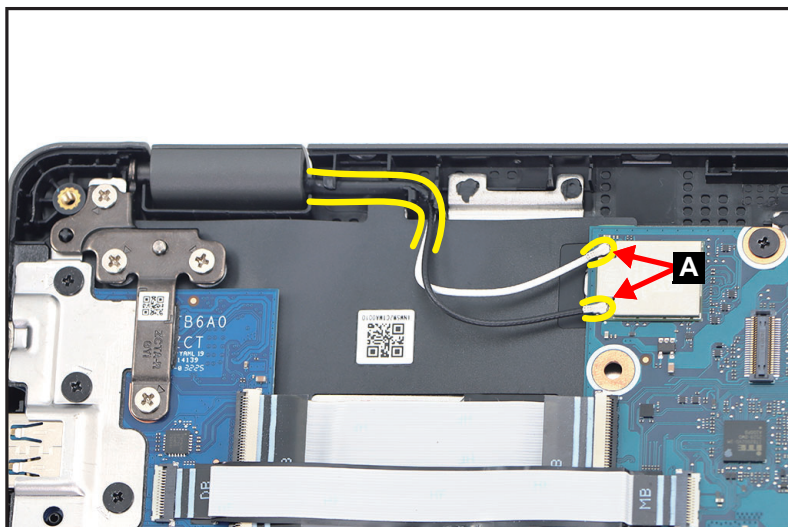

Figure 1-22. LCD Module Removal
1. Disconnect the WLAN antennas cables from the WLAN module connectors (A). Then unroute the antennas cables from the cable guides as shown in Figure 1-22.